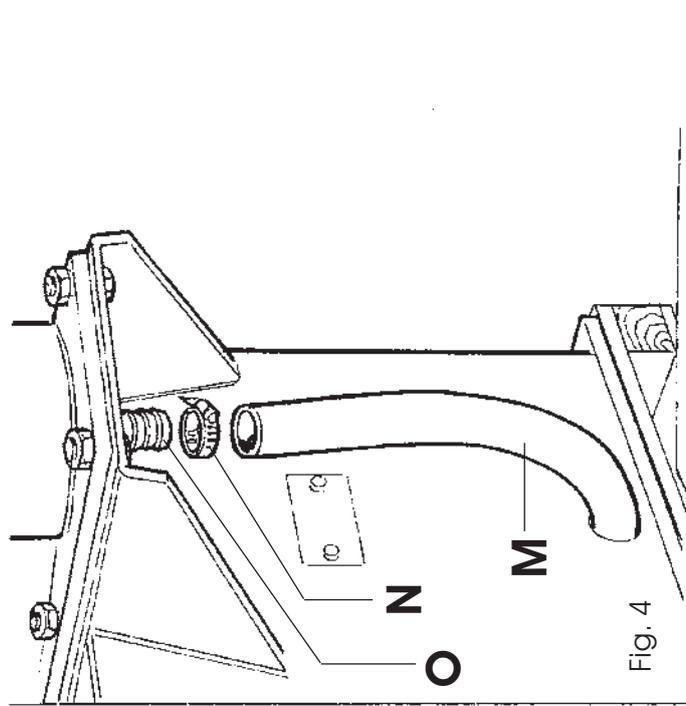

Fig. 4
- ❑ Remove the plug and fit the rubber hose "M" on connection "O" and tighten the hose clip "N" (Fig.4).